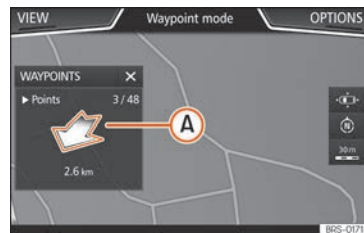

Fig. 231 Offroad route guidance mode
- The general direction of travel is indicated straight ahead by direction arrows in the Infotainment System pop-up window »» Fig. 231 A.